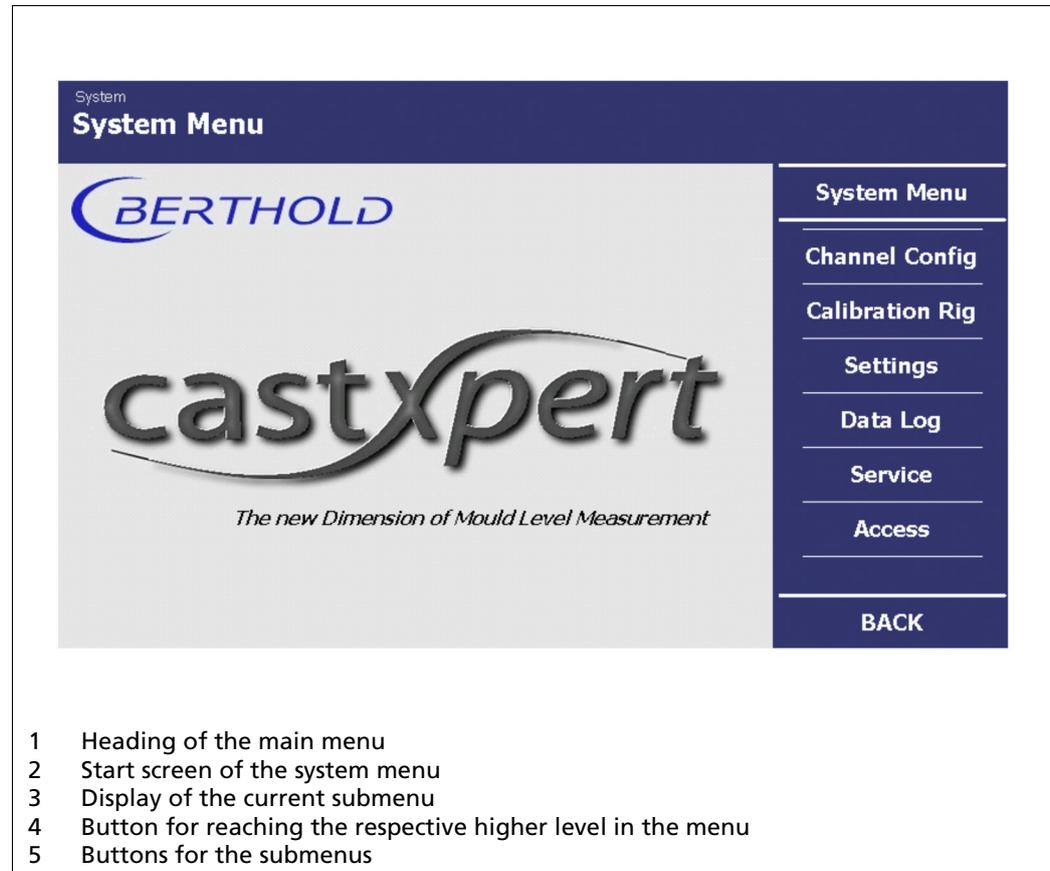

Fig. 19 System Menu, Start Page
- ▶ The System Menu (Fig. 19) is opened.
In the **System Menu**, click on **<Settings>** (Fig. 19, Item 5), to reach the **Settings** submenu.